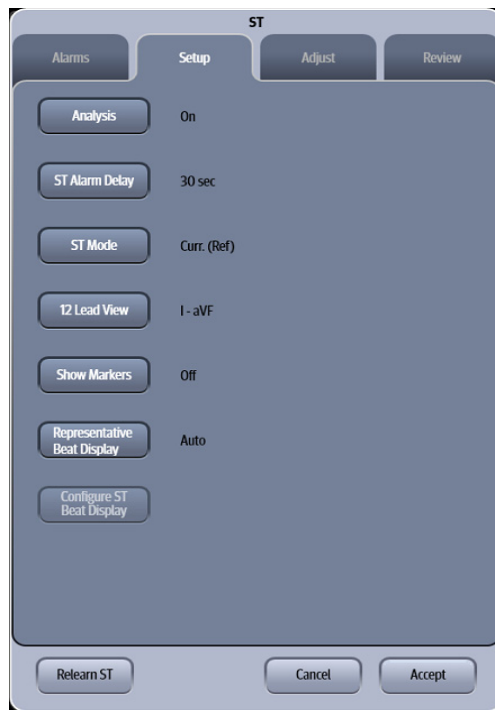

FIGURE 16-2 Example ST Dialog (Setup Tab)
2. Select the **Setup** tab (as shown in FIGURE 16-2).